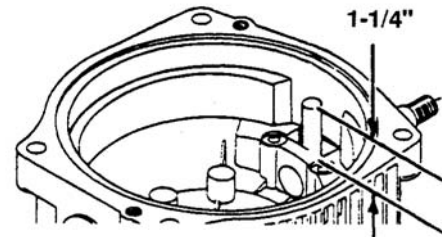

Figure 6-116. Install Dowel Pin
2. Press new dowel pin through the shaft leaving 1-1/4 inch of dowel extending from control shaft. See Figure 6-116.